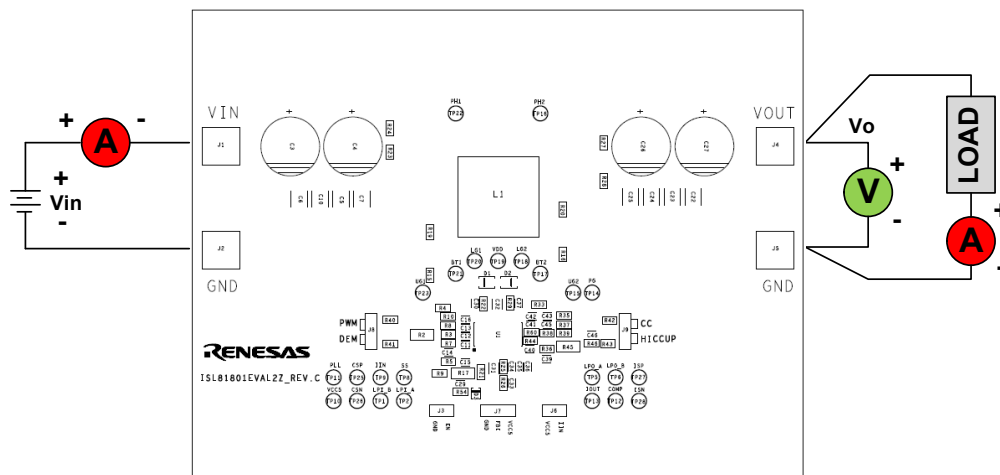

Figure 4. Proper Test Setup
As shown in Figure 4, 9V to 80V V_{IN} is supplied to J1 (+) and J2 (-). The regulated 48V output on J4 (+) and J5 (-) can supply up to 5A to the load. Due to the high power efficiency, the evaluation board can run at 5A continuously without airflow at room temperature ambient conditions.
1. Jumper J8 provides the option to select PWM or DEM. Jumper J9 provides the option to select constant current limit or HICCUP. See Table 2 for the operating options. Ensure that the circuit is correctly connected to the supply and electronic loads before applying any power. See Figure 4 for proper setup.